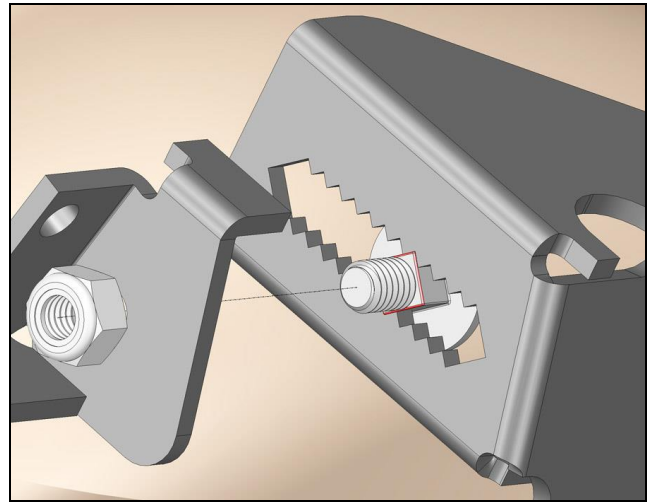

Figure 1a
4. The slotted brackets allow for adjustment to different pedal positions and to compensate for an addition of a nitrous oxide plate (**Figure 1a**).